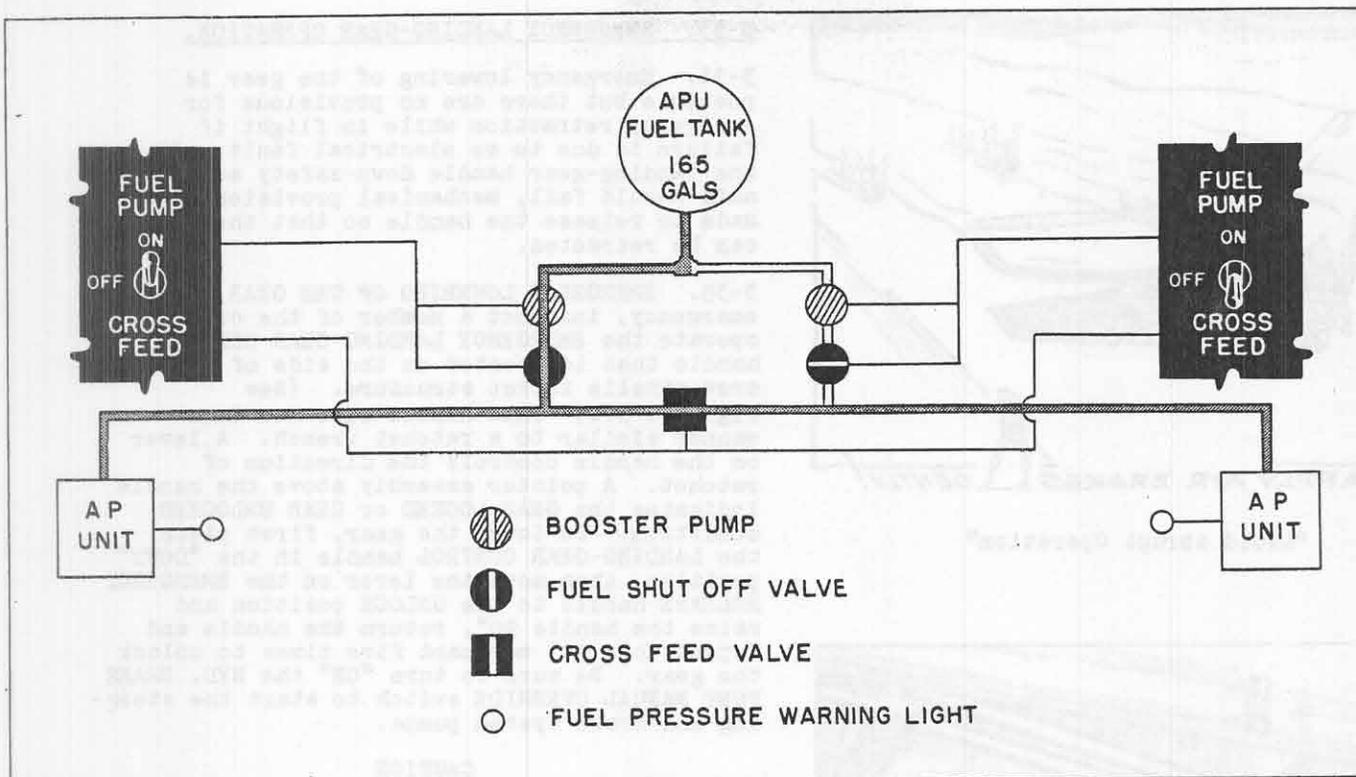

Figure 3-7. A.P.U. Fuel System Emergency Operation
3-16. A.P.U. FUEL BOOSTER PUMP FAILURE. (See figure 3-7.)- If a fuel booster pump should fail, turn its switch to "CROSS-FEED." Leave the other FUEL PUMP switch "ON."
A.P.U. Fuel System Emergency Operation	figure 3-7